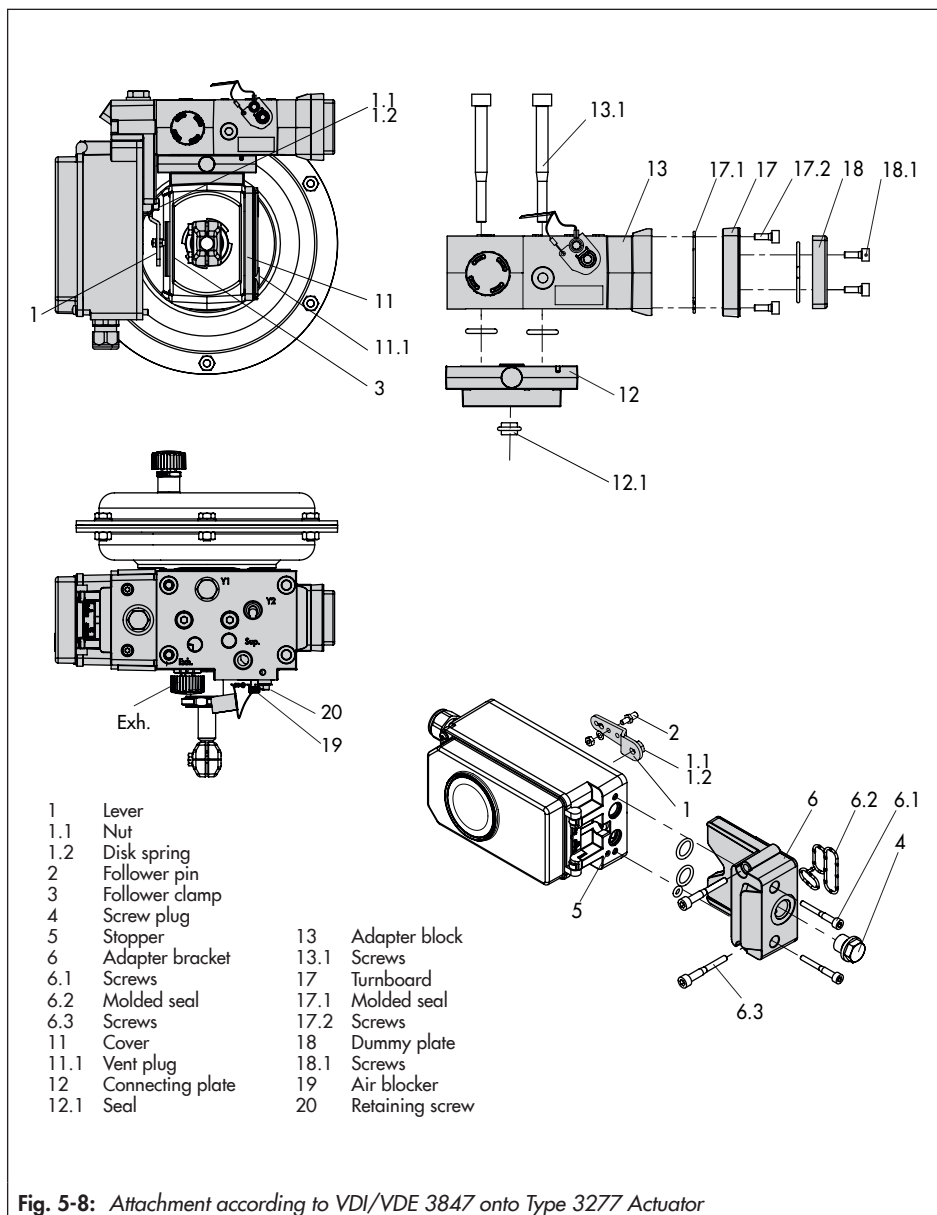

Fig. 5-8: Attachment according to VDI/VDE 3847 onto Type 3277 Actuator
#### Attachment to Type 3277 Actuator (see Fig. 5-8)
Mount the positioner on the yoke as shown in Fig. 5-8. The signal pressure is routed to the actuator over the connecting plate (12), for actuators with fail-safe action "actuator stem extends" internally through a bore in the valve yoke and for "actuator stem retracts" through external piping.